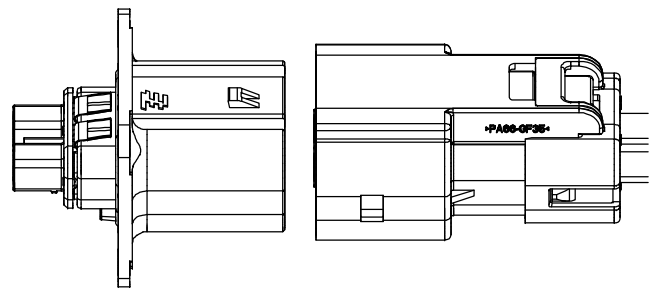

Figure 16
1. Align plug and header connectors as shown in Figure 16.